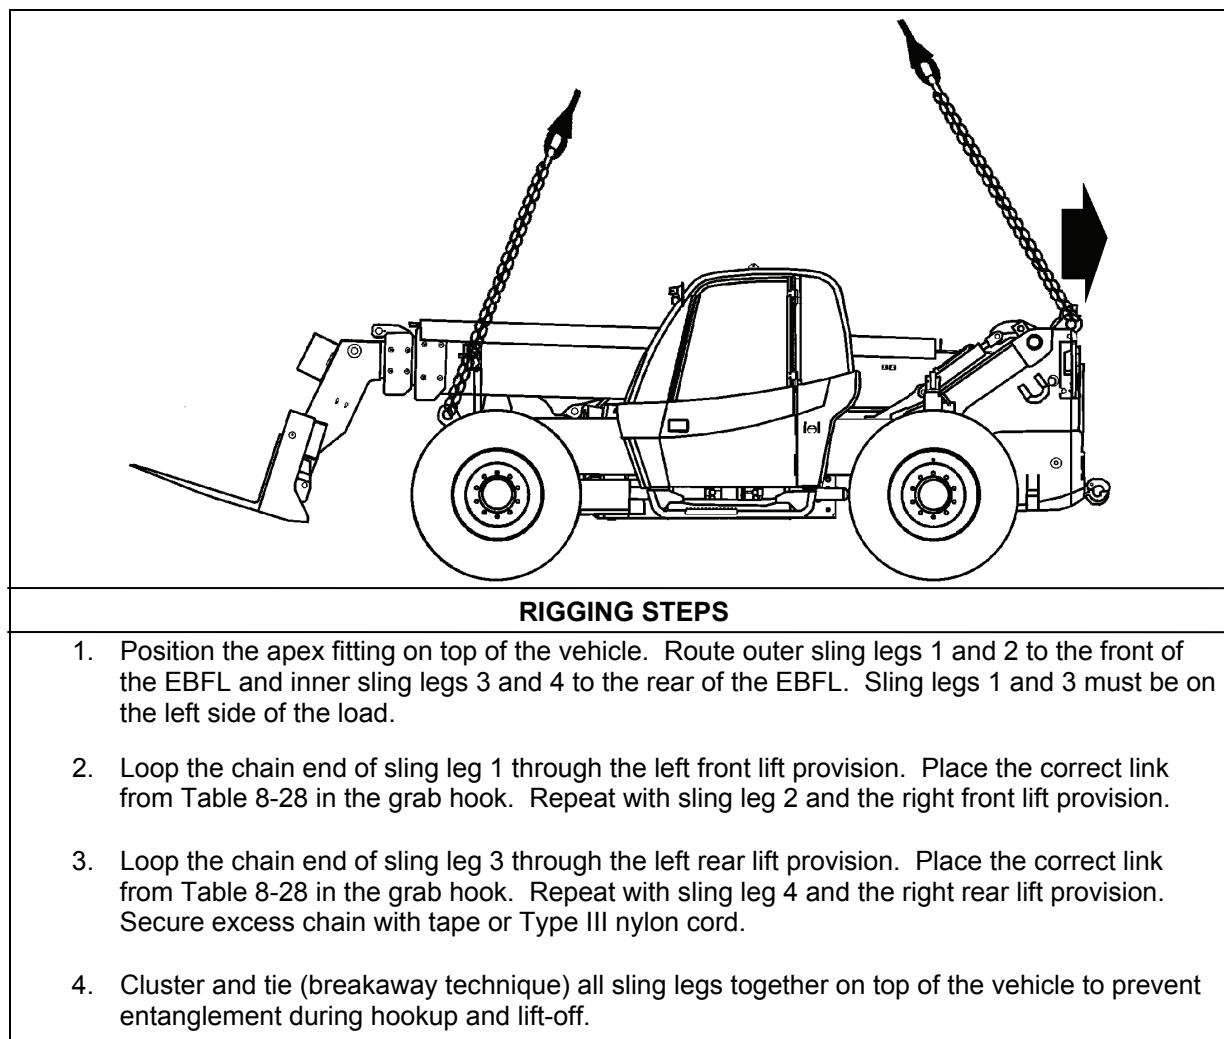

Figure 8-28. Extendable Boom Forklift (New Version)
- **Rigging.** Rig the load according to the steps in Figure 8-28.